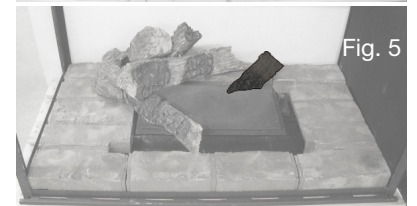

Fig. 5
6. Place log #5 onto the pin located in the left side hearth pad and let it rest on the burner, as shown in Figure 5.